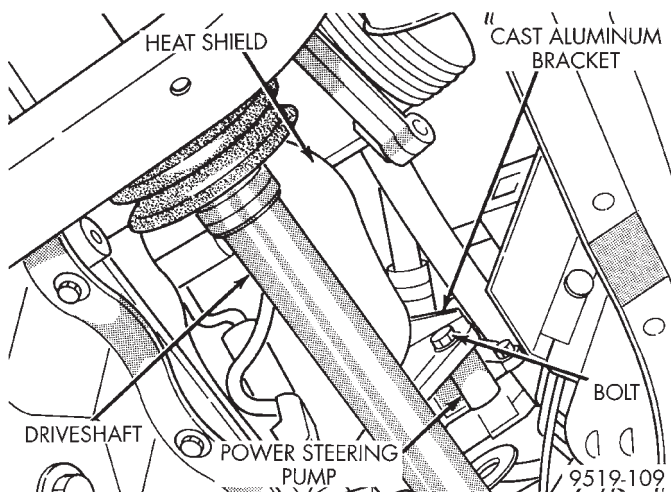

Fig. 26 Power Steering Pump Attachment To Rear Mounting Bracket
(9) Remove bolt (Fig. 26) attaching the back of the power steering pump to the cast aluminum mounting bracket.
(3) Loosely install the bolt mounting the power steering pump to its rear mounting bracket (Fig. 26).